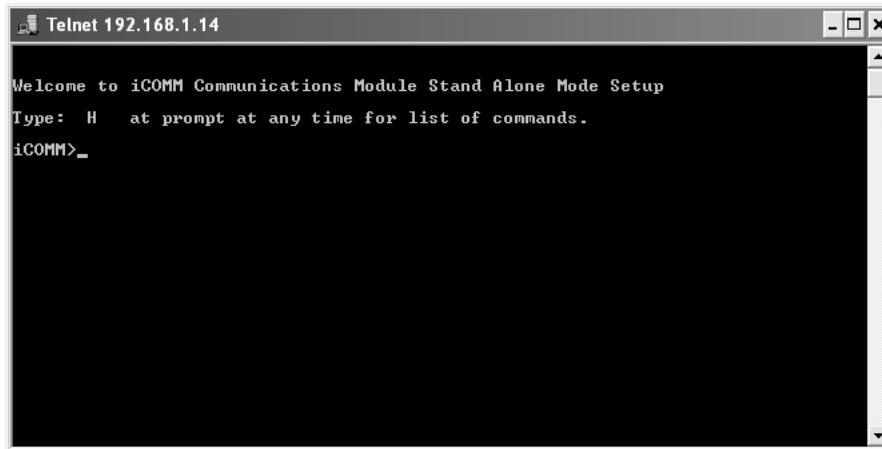

Figure 24
- 9 A command window (see Figure 24) will appear with the following text: